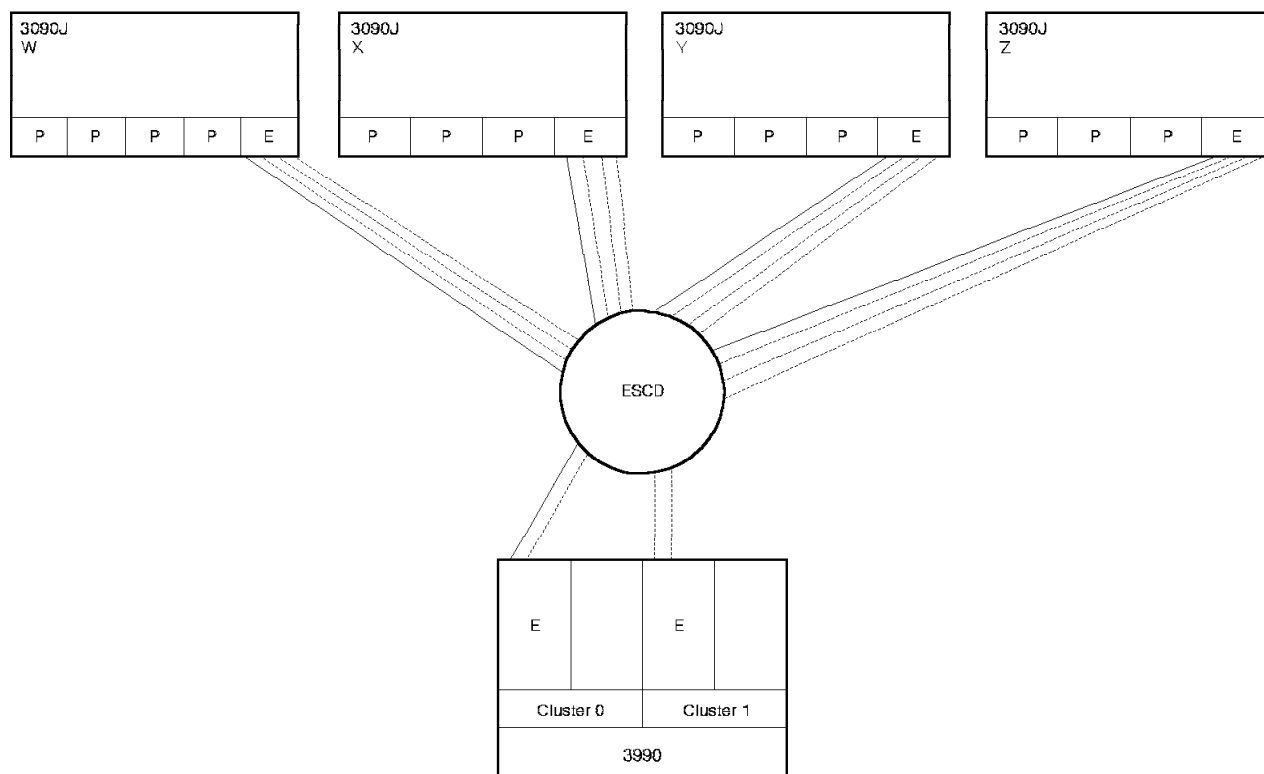

Figure 32. 3990 Logical Channel Relationship. Several processor channels may be associated with one 3990 ESCON port.
**Logical Paths and Physical Channels:** With the implementation of the ESCON architecture, we have to make a distinction between logical paths and physical channels. In the parallel configuration, there is a one-to-one correspondence between the two. However, in the ESCON environment—because of the way we make use of the ESCD, there is a possibility of having multiple processor channel connections associated with one ESCON port on the 3990. See Figure 32. In this figure, the four processor links drawn with solid lines all use the same link from the ESCD to the storage control—again, the one drawn with a solid line.